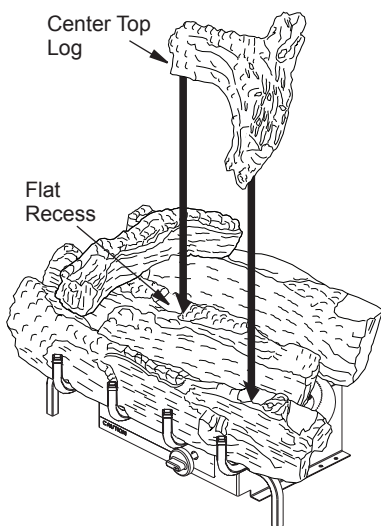

Figure 20 - Installing Center Top Log for 18" Log Set
5. **For 18" log set.** Place center top log as shown in Figure 20, page 17.